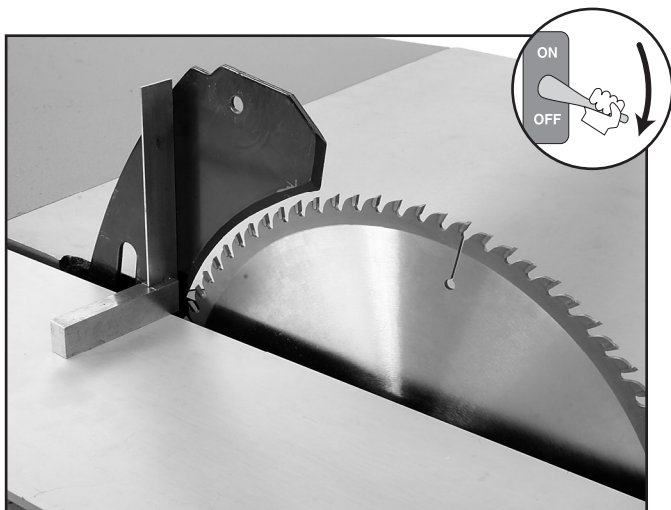

Figure 36. Checking vertical alignment.
6. Place a machinist's square flat on the table and slide it against the riving knife as shown in **Figure 36**.